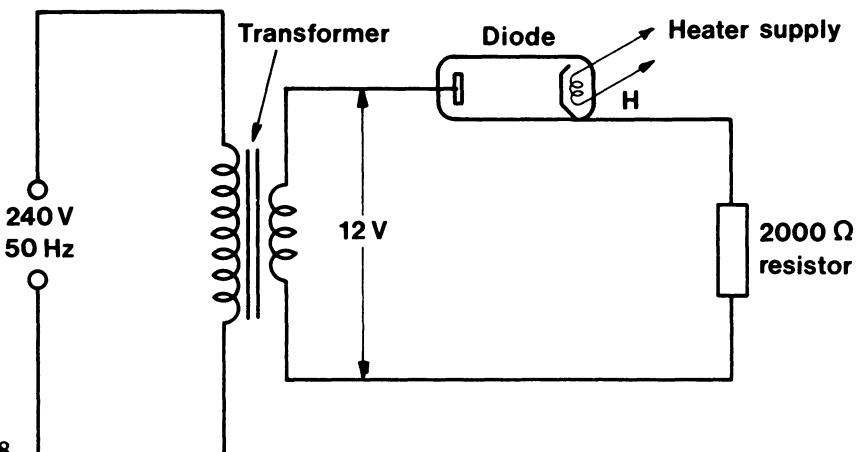

FIG. 3.38
29. A student designs a circuit to convert an alternating voltage to a lower direct voltage. His circuit is shown in Fig. 3.38.
(c) Explain the part played by the diode in the circuit (Fig. 3.38). (5)